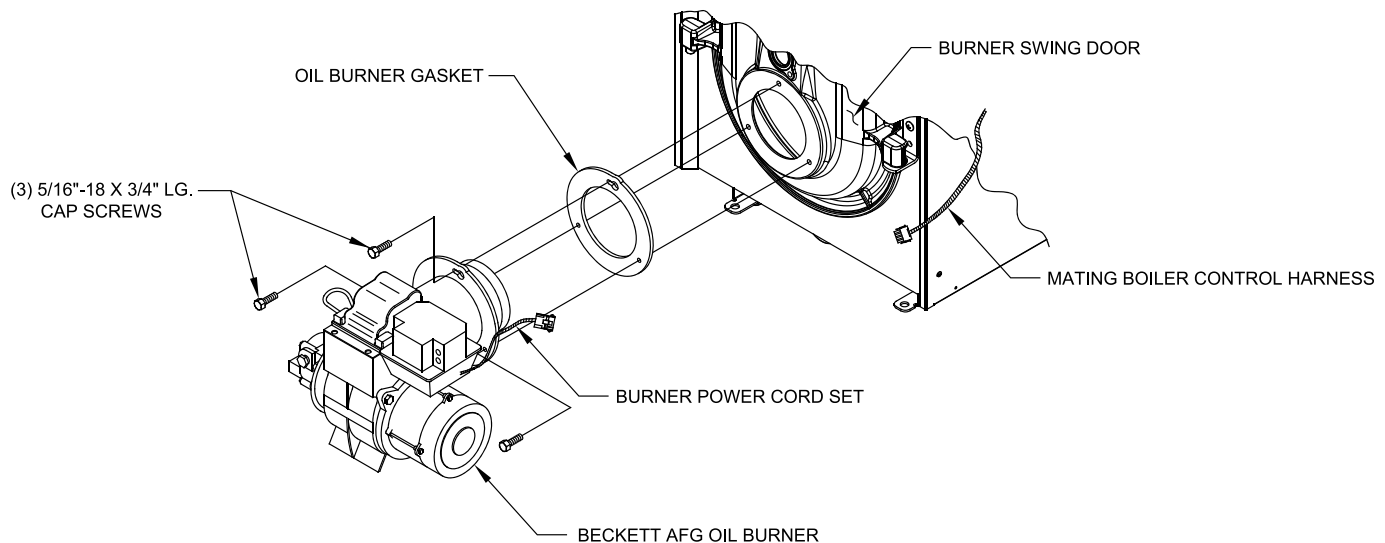

Figure 3-12: Oil Burner Installation (Beckett shown)
8. **Install oil burner.** (See Figure 3-12 and Table 3-13)